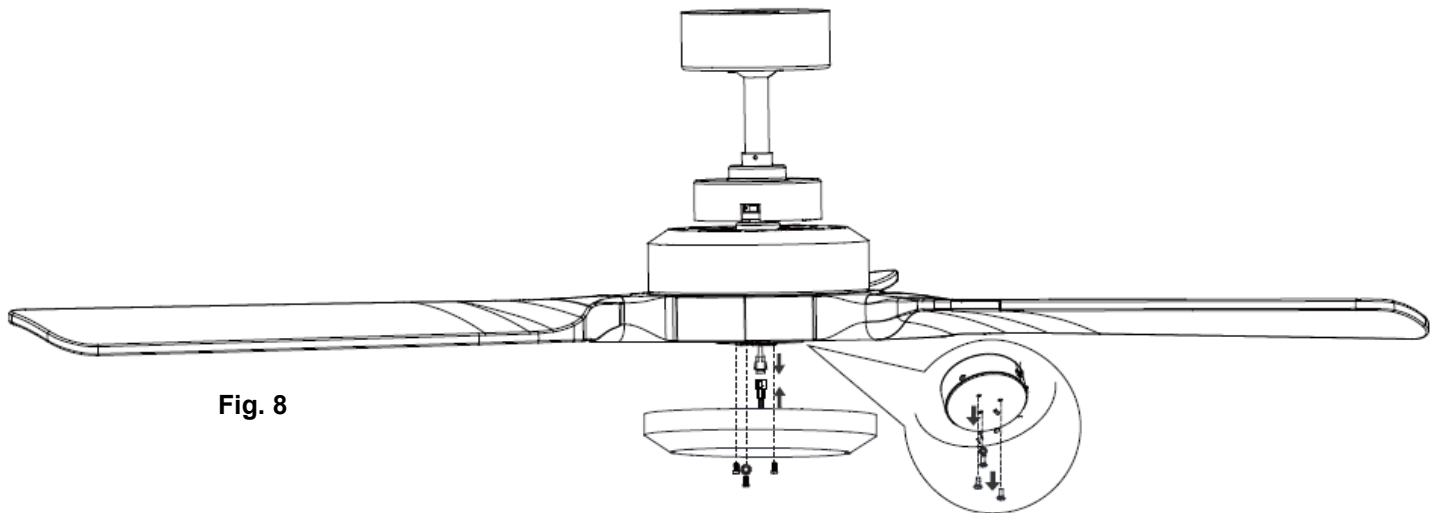

Fig. 8
- Join the connectors together and place into the connection box. Install the light plate onto the connection box by securing the 3 screws (Fig. 8)